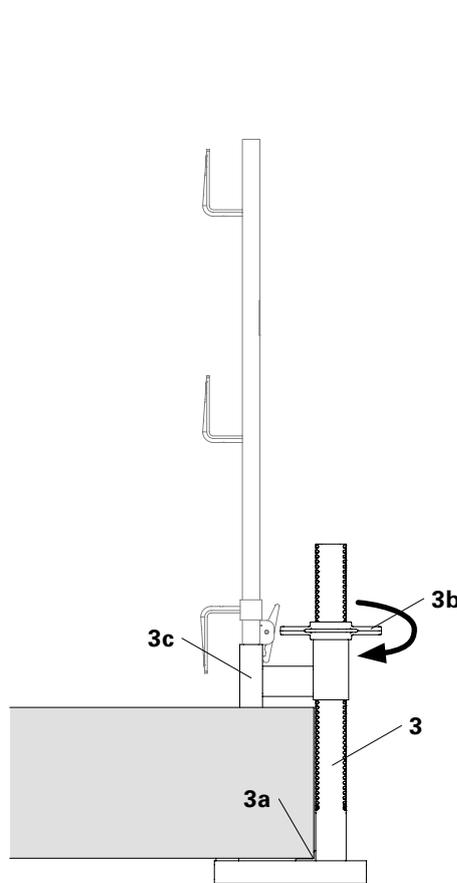

Fig. A2.07
3. Insert Post (6) in the rectangular tube of the Uni-Clamp PUC, for
- slab: rectangular tube (3c), (Fig. A2.07)